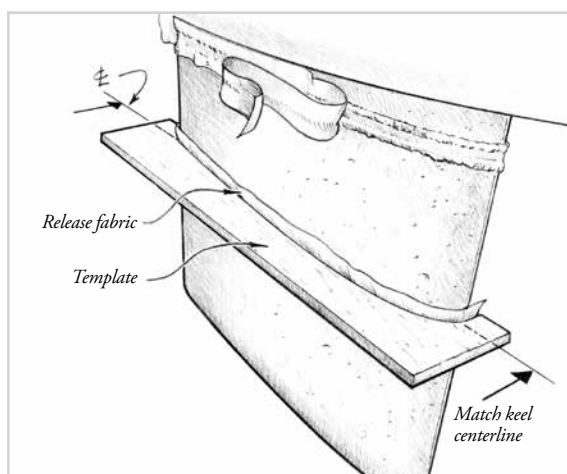

Figure 14-14 Push the batten into the ridge. Apply pressure only where the batten touched the high spot you marked earlier.
6. Push the templates into the soft mixture to make an impression of the exact keel profile at each template location. To gauge the depth of the impression (height of the profile), push the template into the mixture until the centerlines marked on the template match the centerlines marked on the leading and trailing edges of the keel (Figure 14-14). If an area of the ridge is too low to contact the template when it is properly aligned, squeeze the material under the release fabric upward so it comes in contact with the template. When you're satisfied, carefully remove the template, leave the release fabric in place, and allow the mixture to cure thoroughly.